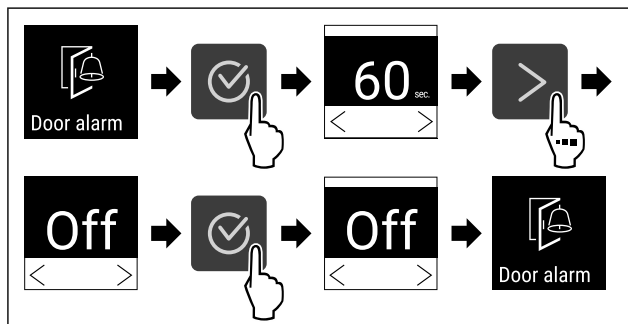

Fig. 106
- Complete steps (see Fig. 106) .